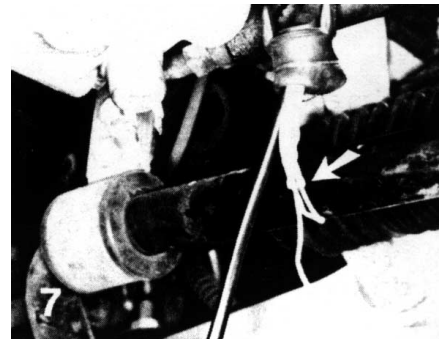

Figure 7
21. Lift vehicle. Remove the engine cover plate screws and remove cover plate. Use tie strap to tie wiring to harness. Pull off rubber boot and angled connections from steering pump pressure switch. Cut terminal from 0.75mm², red/blue wire. Pull insulation hose through rubber boot and cut off approximately 50mm. Loop red/blue wire and guide into insulation hose. Push newly installed wire through rubber boot (Figure 7).